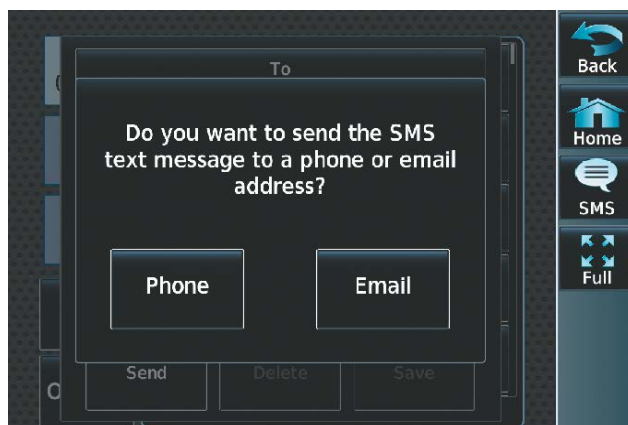

Figure 8-84 Select Message Destination
- 3) Touch the 'To' Window. A selection screen is displayed like in Figure 8-84. If the text message is to be sent to SMS compatible telephone, touch the **Phone** Button. If the message is to be sent to an email address, touch the **Email** Button.